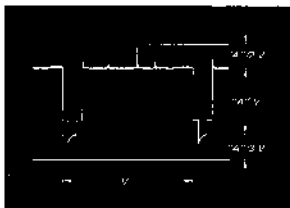

Fig. 6-1. White clip and dark clip levels
13. Adjust R238 so that the negative spike in the vertical blanking pulse falls 30% \pm 10% below sync tip amplitude. See Fig. 6-1.
14. Adjust R237 (White Clip) so that extreme peak-white parts of the waveform are A + A/2 volts (p-p) as shown in Fig. 6-1.